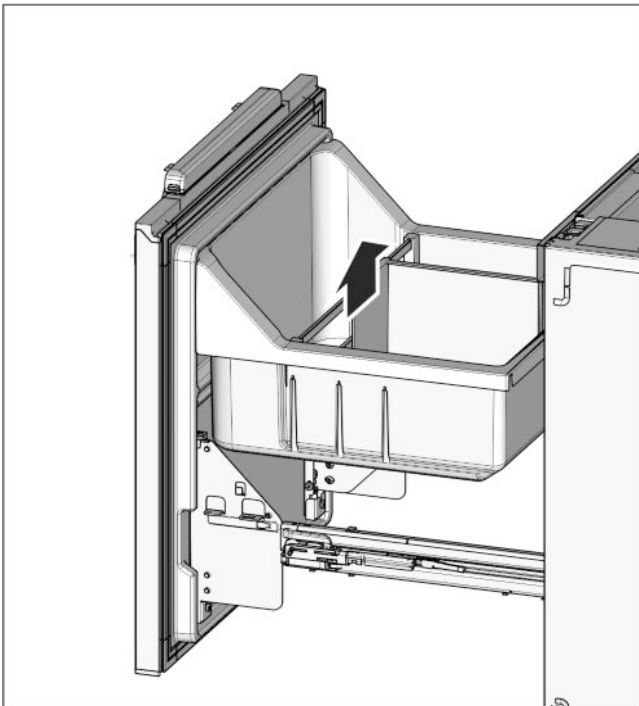

Fig. 29
- ▶ Reinsert the bottle shelf Fig. 29 (32) and the vegetable drawer Fig. 29 (31).